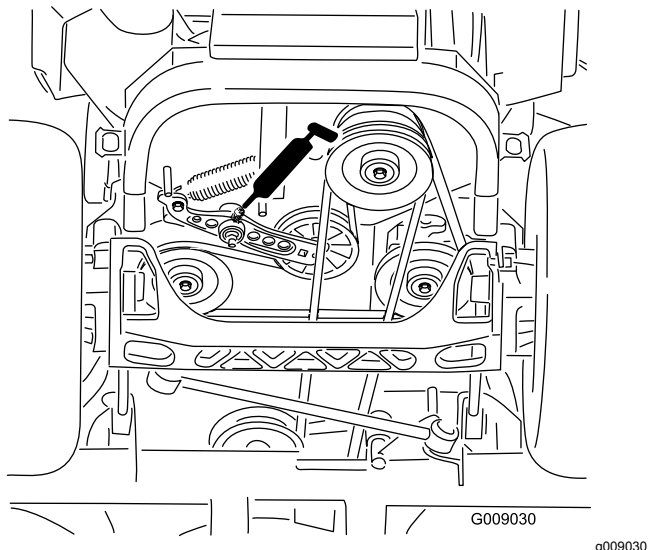

Figure 43
4. Grease the drive belt idler arm (Figure 43).